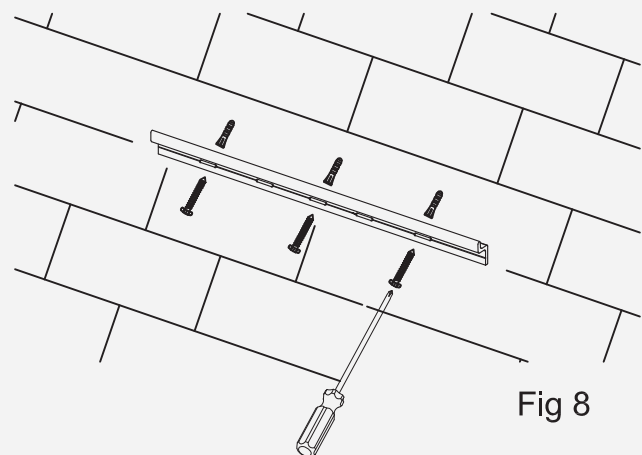

Fig 8
3. Drill 8 mm hole if required for wall anchor and place wall anchor in hole. Mount wall bracket with #10 x 1 1/2" (5) screws. (Fig 8)